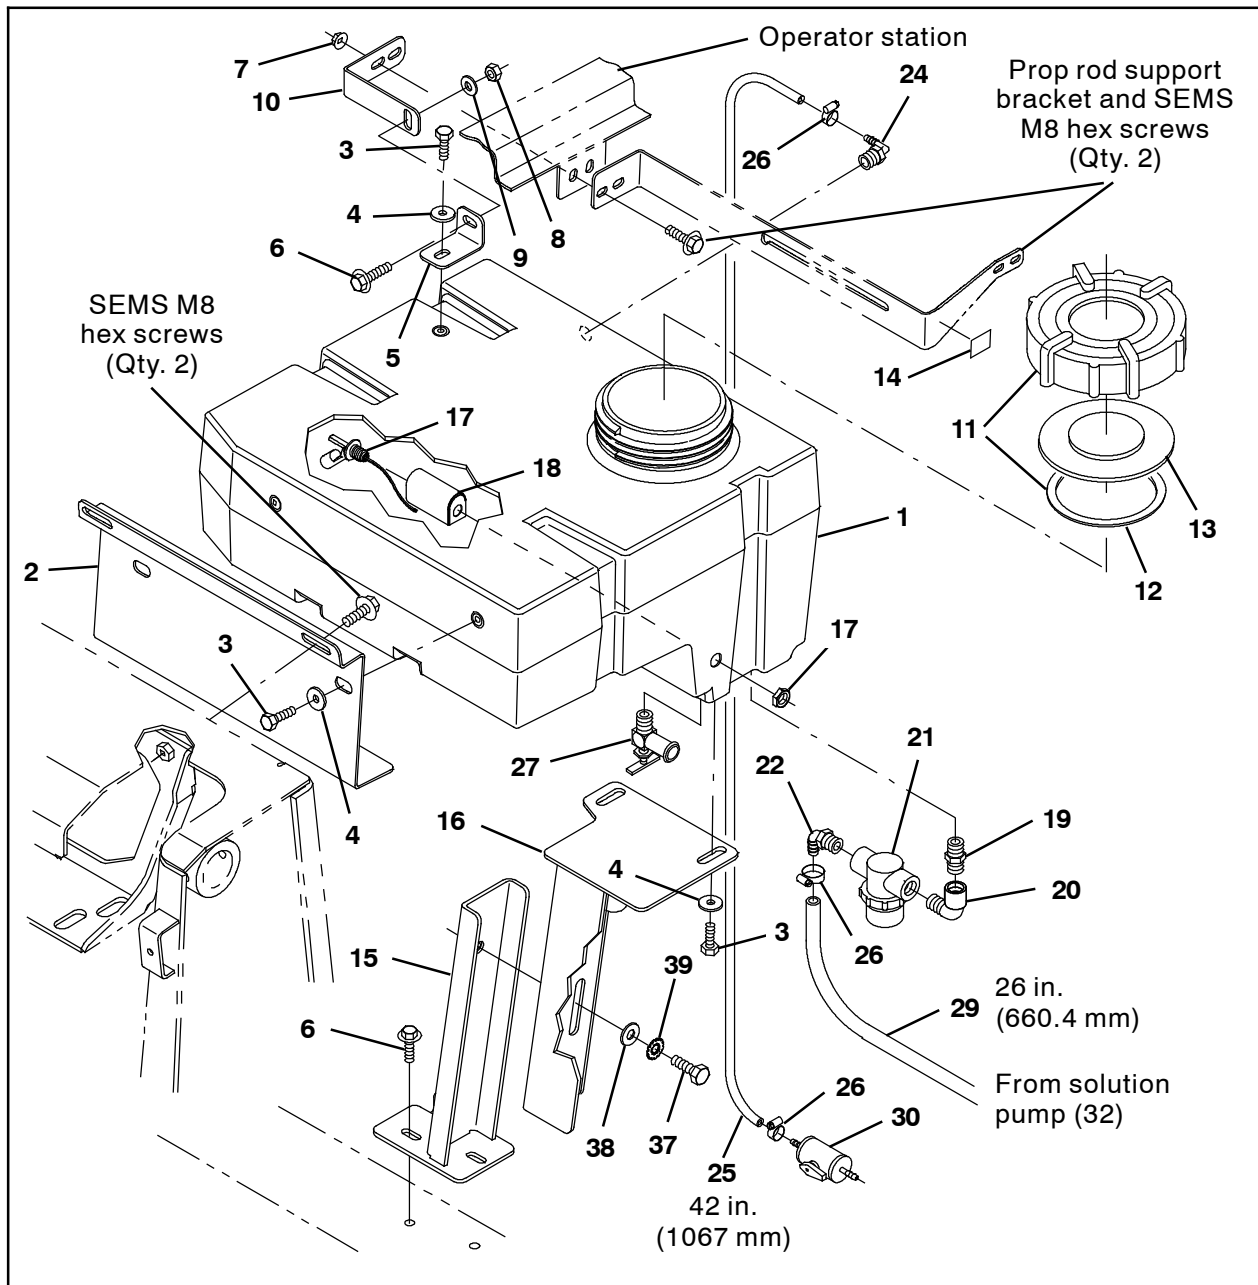
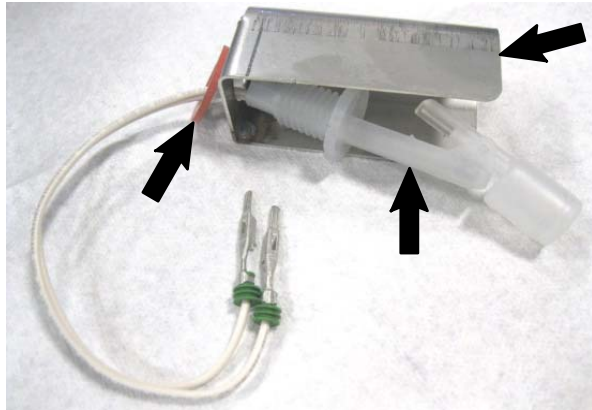
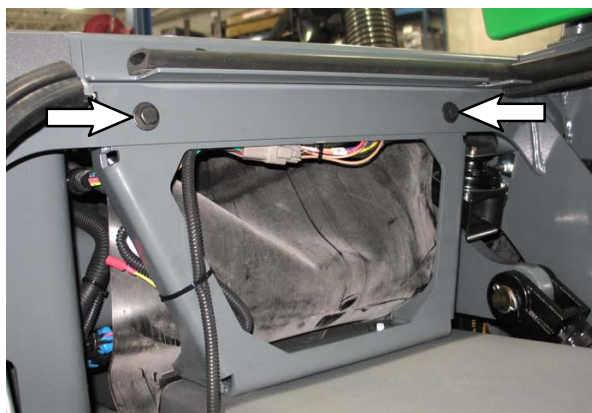

FIG. 4
FIG. 5
FIG. 6
3. Use two SEMS M8 hex screws (6) to install the water tank support brace (15) onto the frame of the machine. (Fig. 4)
19. Use two M8 hex screws (3) and two flat washers (4) to install the tank rear bracket (2) onto the water tank (1). (Fig. 4)
20. Ensure the drain cock fitting (27) handle is turned to off position. (Fig. 4)
21. Apply thread sealant onto the drain cock fitting (27) and thread the drain cock fitting into the water tank (1). (Fig. 4)
22. Apply thread sealant onto the straight fitting (19) and thread the straight fitting into the elbow fitting (20). (Fig. 4)
23. Apply thread sealant onto the elbow fitting (20) from the previous step and elbow fitting (22) and thread both elbow fittings into the in-line filter (21). (Fig. 4)
24. Apply thread sealant onto the straight fitting (19) and thread the in-line filter assembly assembled in the previous several steps into the water tank (1). (Fig. 4)
25. Apply thread sealant onto the elbow fitting (24) and thread the elbow fitting into the water tank (1). (Fig. 4)
26. Cut a 42 in. (1067 mm) length of the PVC hose (25). (Fig. 4)
27. Use a hose clamp (26) to connect the 42 in. (1067 mm) PVC hose (25) to the elbow fitting (24) installed in the water tank (1). (Fig. 4)
28. Remove the connector from the liquid level sensor (17). Set the connector aside. (Fig. 4)
29. Remove the jam nut and rubber gasket from the liquid level sensor (17). Set the jam nut and rubber gasket aside. (Fig. 4)
30. Insert the liquid level sensor (17) into the protector bracket (18) and slide the rubber gasket onto the liquid sensor wires. (Fig. 5 / Fig. 4)
31. Insert the liquid level sensor (17) / protector bracket (18) into the water tank (1). (Fig. 4)
32. Apply pipe sealant to the threads of the liquid level sensor (17) protruding out from the water tank (1). (Fig. 4)
33. Tighten the jam nut onto the liquid level sensor (17) to secure the liquid level sensor / protector bracket (18) inside the water tank (1). (Fig. 4)
34. Reinstall the connector onto the liquid level sensor (17) wires. (Fig. 4)
35. Use one M10 hex screw (37), one lock washer (39), and one flat washer (38) to install the tank top bracket (16) onto the water tank support brace (15). Do not completely tighten hardware. (Fig. 4)
36. Remove the two SEMS M8 hex screws securing the fan mounting bracket to the machine. (Fig. 4 / Fig. 6)
37. Use the two SEMS M6 hex screws removed from the machine in the previous step to install the tank rear support bracket (2) / water tank assembly (1) onto the machine. (Fig. 4 / Fig. 6)
38. Use one M8 hex screw (3), one flat washer (4) to install the top tank support bracket (5) onto the water tank (1). (Fig. 4)
39. Remove the SEMS M8 hex screws securing the prop rod support bracket to the operator station. Set the SEMS M8 hex screws aside. (Fig. 4)
40. Use one SEMS M8 hex screw (6), one flat washer (9), and one M8 hex nut (8) to install the tank angle bracket (10) onto the top tank support bracket (5). Do not completely tighten hardware. (Fig. 4)
41. Use two saved SEMS M8 hex screws and two M8 flange nuts (7) to install the prop rod support bracket and tank angle bracket (10) onto the operator station. (Fig. 4)
42. Adjust the angle of the water tank (1) so that it slopes slightly downward (allowing optimal water drainage, but does not touch the outlet tube. (Fig. 4)
43. Tighten all loose hardware on the tank top bracket (16), tank angle bracket (10), and top tank support bracket (5) to fully secure the water tank (1) at the previously set angle on the machine. (Fig. 4)
44. If necessary, remove the gasket (12) from the cap assembly (11). (Fig. 4)
45. Insert the cap plug (13) into the cap assembly (11) and reinsert the gasket (12) into the cap assembly. (Fig. 4)
46. Install the cap assembly (1) assembled in the previous several steps onto the water tank (1). (Fig. 4)